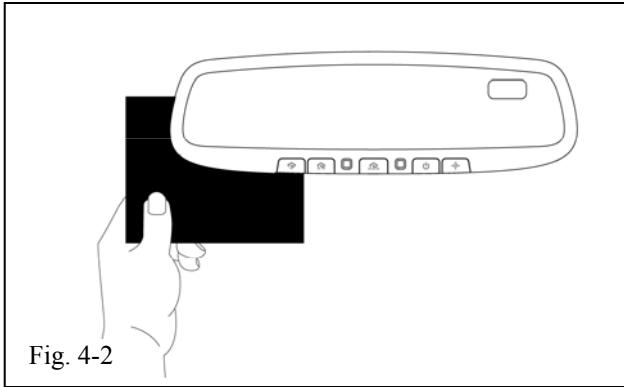

Fig. 4-2
- (1) To make sure the auto-dimming feature is on, verify that the LED indicator light is on. If it is not on, push the "On/Off" button to turn the LED on.
- (2) Cover the forward-looking light sensor located on the back of the mirror with a dark cloth or towel. (Fig. 4-2)
- (3) In a few seconds, the mirror will begin to darken (time may vary with ambient light levels).
- (4) Remove the cover from the forward-looking light sensor and the mirror will begin to clear.